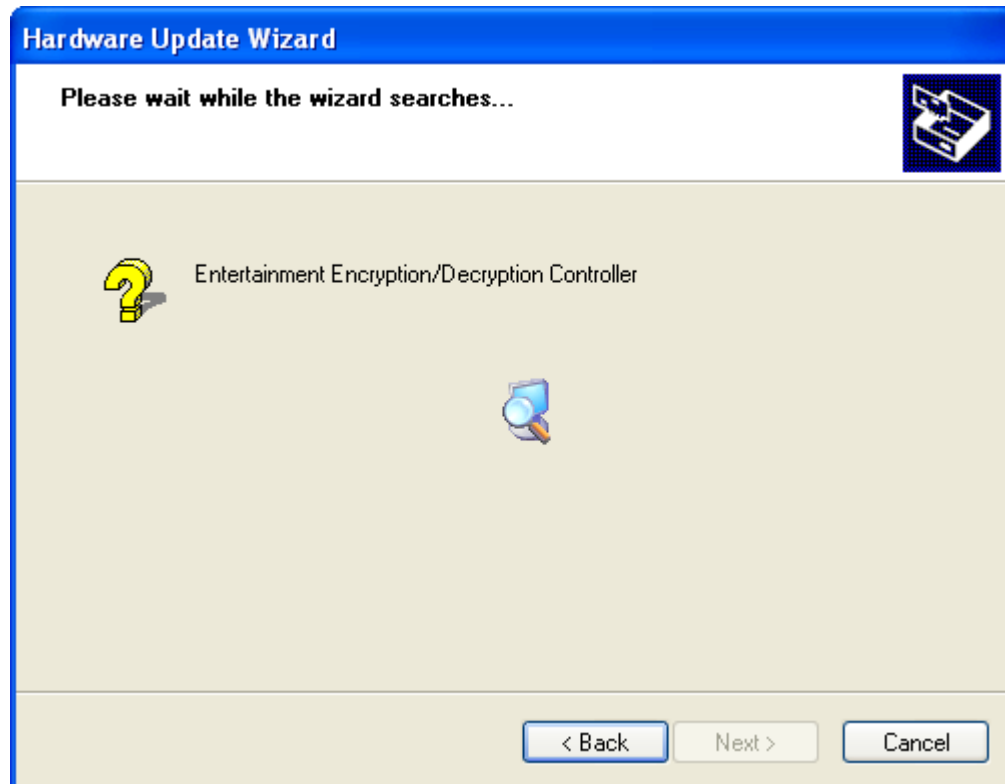

Figure 7-38: Wizard Search
Step 10: The Wizard then searches for the driver. See **Figure 7-38**.